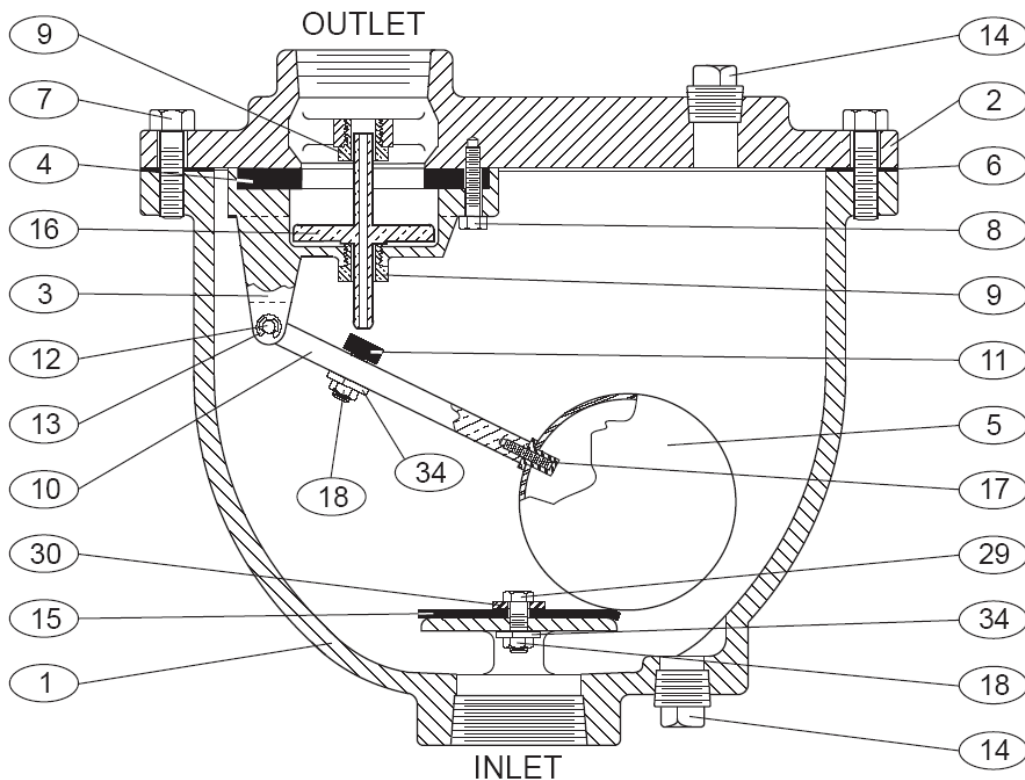

FIGURE 6. 1"-4" COMBINATION AIR VALVE
The orifice button and seat are resilient Buna-N. The general details of construction are illustrated in Figure 6. The body (1) is threaded for connection to the pipeline. The seat (4) is retained by a baffle (3) and the cover (2). The adjustable orifice button (11) has a threaded post for attachment to the float arm (10).
All parts must be cleaned and gasket surfaces should be cleaned with a stiff wire brush in the direction of the serrations or machine marks. Worn parts, gaskets and seals should be replaced during reassembly. Refer to Figure 6 on page 3.